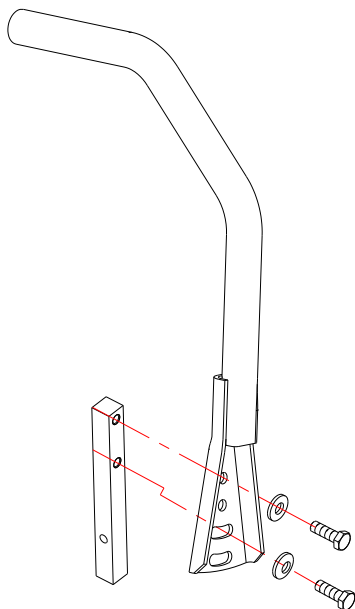

FIG 4
- b) Install the motion control lever onto the control arm shaft (see Figure 4).